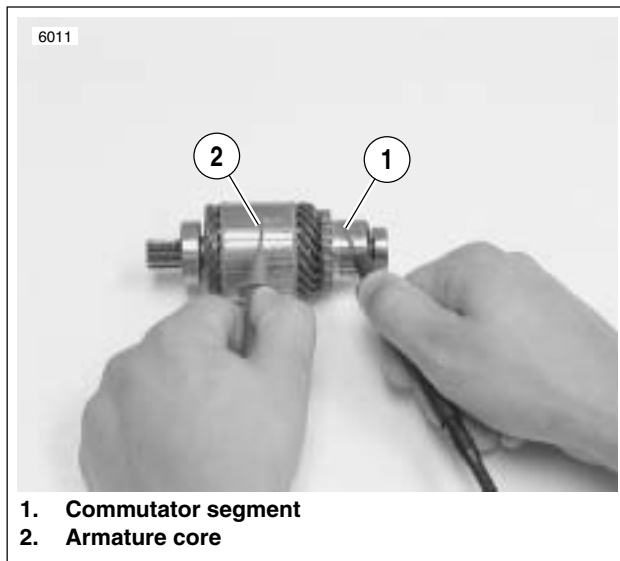

Figure 5-21. Grounded Armature Test
10. See Figure 5-21. Check for a GROUNDED ARMATURE with an ohmmeter or continuity tester.
- a. Touch one probe to any commutator segment (1).
- b. Touch the other probe to the armature core (2).